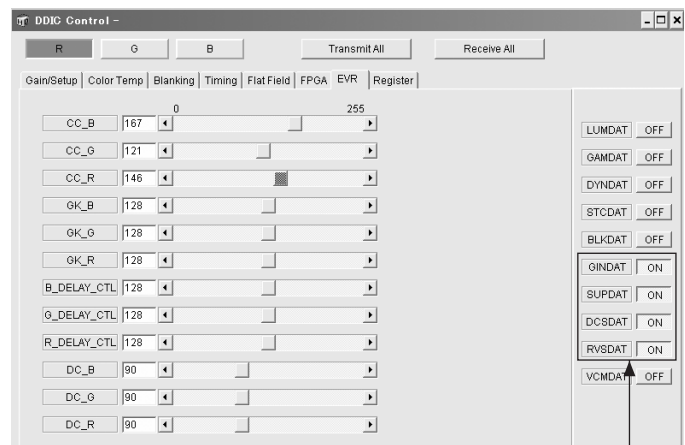
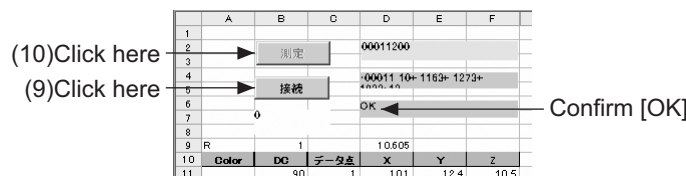

Fig.2
Fig.3
- (4) When the connection is completed, press the [DDIC] button. The [DDIC Control] screen will appear.
- (5) Press the [Receive All] button at the top right of the screen.
- (6) Press the [R] button at the top left of the screen. Of the buttons located at the furthest right of the screen, set [GINDAT], [SUPDAT], [DCSDAT] and [RVSDAT] to ON, and the rest to [OFF]. Refer to Fig.2
- (7) Click [DisConnect] in the PSA menu to disconnect the connection.
- (8) Put the CL200 at 40cm away from the projector lens surface (Screen center) and turn the CL200 to ON.
- (9) Open the Gamma adjustment file and click [CONNECT] in the [DC] sheet.
- (10) Click [MEASURE] when [OK] is shown. Refer to Fig.3.